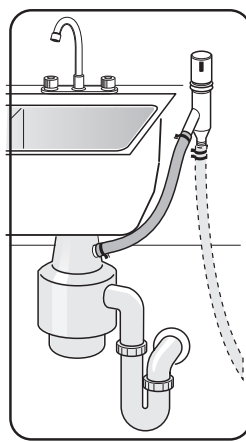

Figure 28
- 4 To a disposer dishwasher drain connection through an air gap, as shown on **Figure 28**.